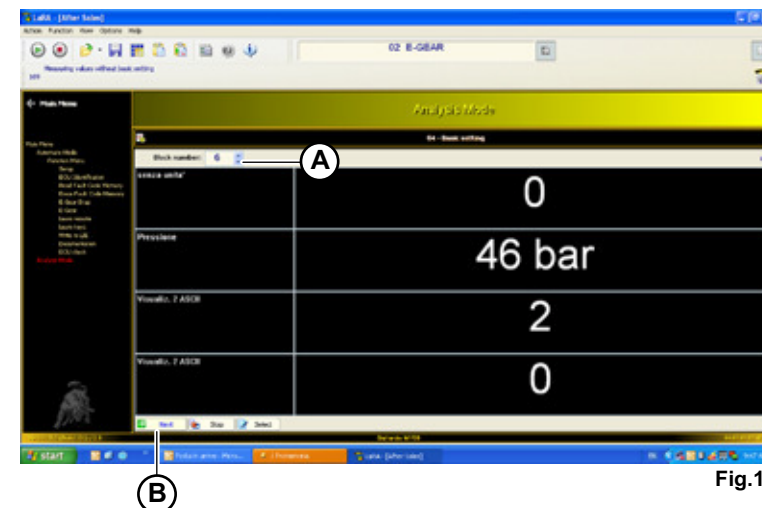

Fig.14
- Select routine 6 inside the block number (**A-Fig.14**).
- Start the connection () and press the start push-button (**B-Fig.14**).